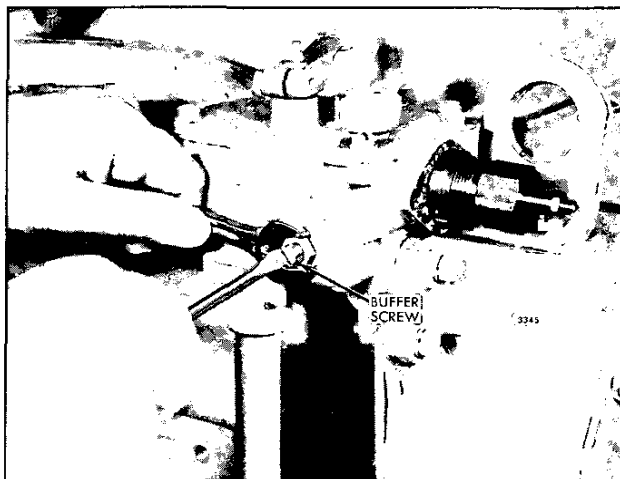

Fig. 9 – Adjusting the Buffer Screw
1. With the engine running at normal operating temperature, loosen the locknut and turn the buffer screw in so that it contacts the differential lever as lightly as possible and still eliminates engine roll (Fig. 9). *Do not increase the engine idle speed more than 15 rpm with the buffer screw.*
3. Start the engine and loosen the idle speed adjusting screw locknut. Then adjust the idle screw to obtain the desired idle speed (Fig. 9). Hold the screw and tighten the locknut to hold the adjustment. Governors used in turbocharged engine include a starting aid screw and locknut threaded into the governor gap adjusting screw.